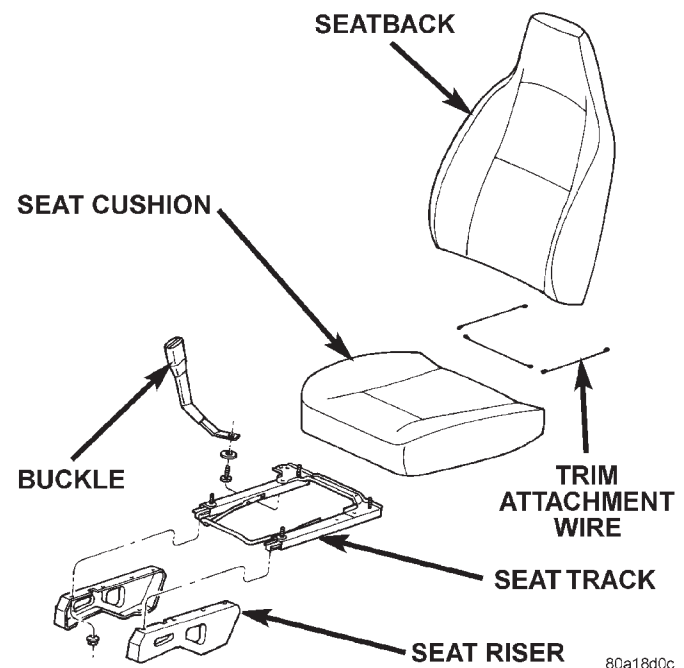

Fig. 53 Seat Belt Buckle
- (1) Remove the bolt attaching the seat belt buckle to the seat track/seat riser (Fig. 53).
- (2) Disengage seat belt harness connector (driver's seat only).
- (3) Remove buckle from vehicle.